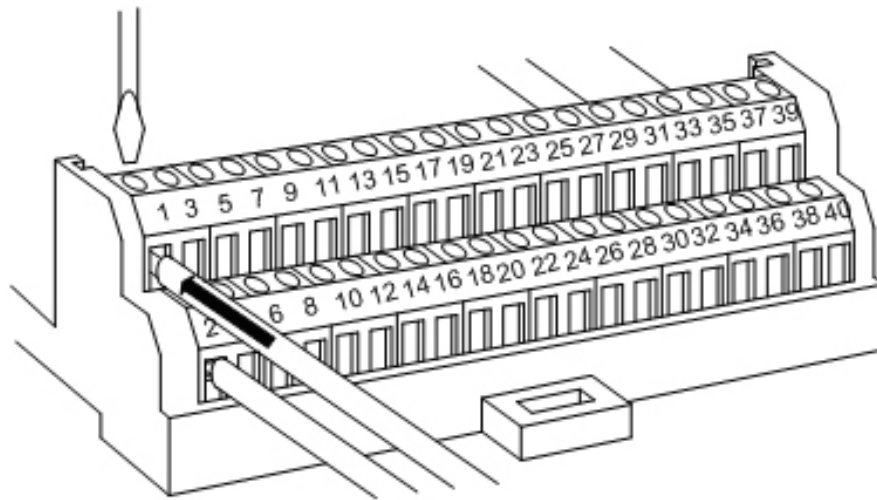

Figure 2-51 Signal Cable Connection
3. Insert the signal cable into the terminal channel as shown in Figure 2-51.